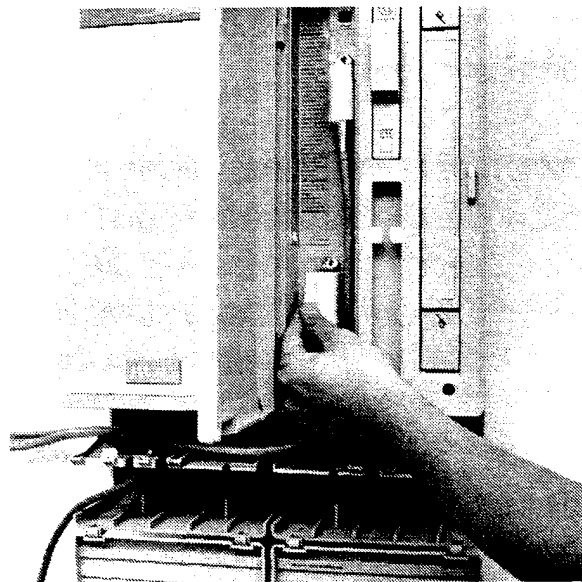

Figure 3.10 - KSU Stations connector
1. Plug a 50-pin connector of a 25-pair cable into the corresponding station connector on the KSU as in Figure 3.10. (The connector is labeled with an icon which represents a Norstar telephone set as shown here.)